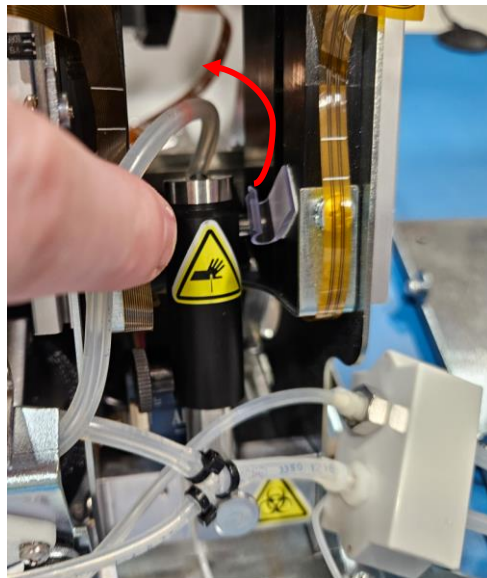

Figure 15
- 3.1. Remove Waste Tubing from retention clip Tube. Figure 15.